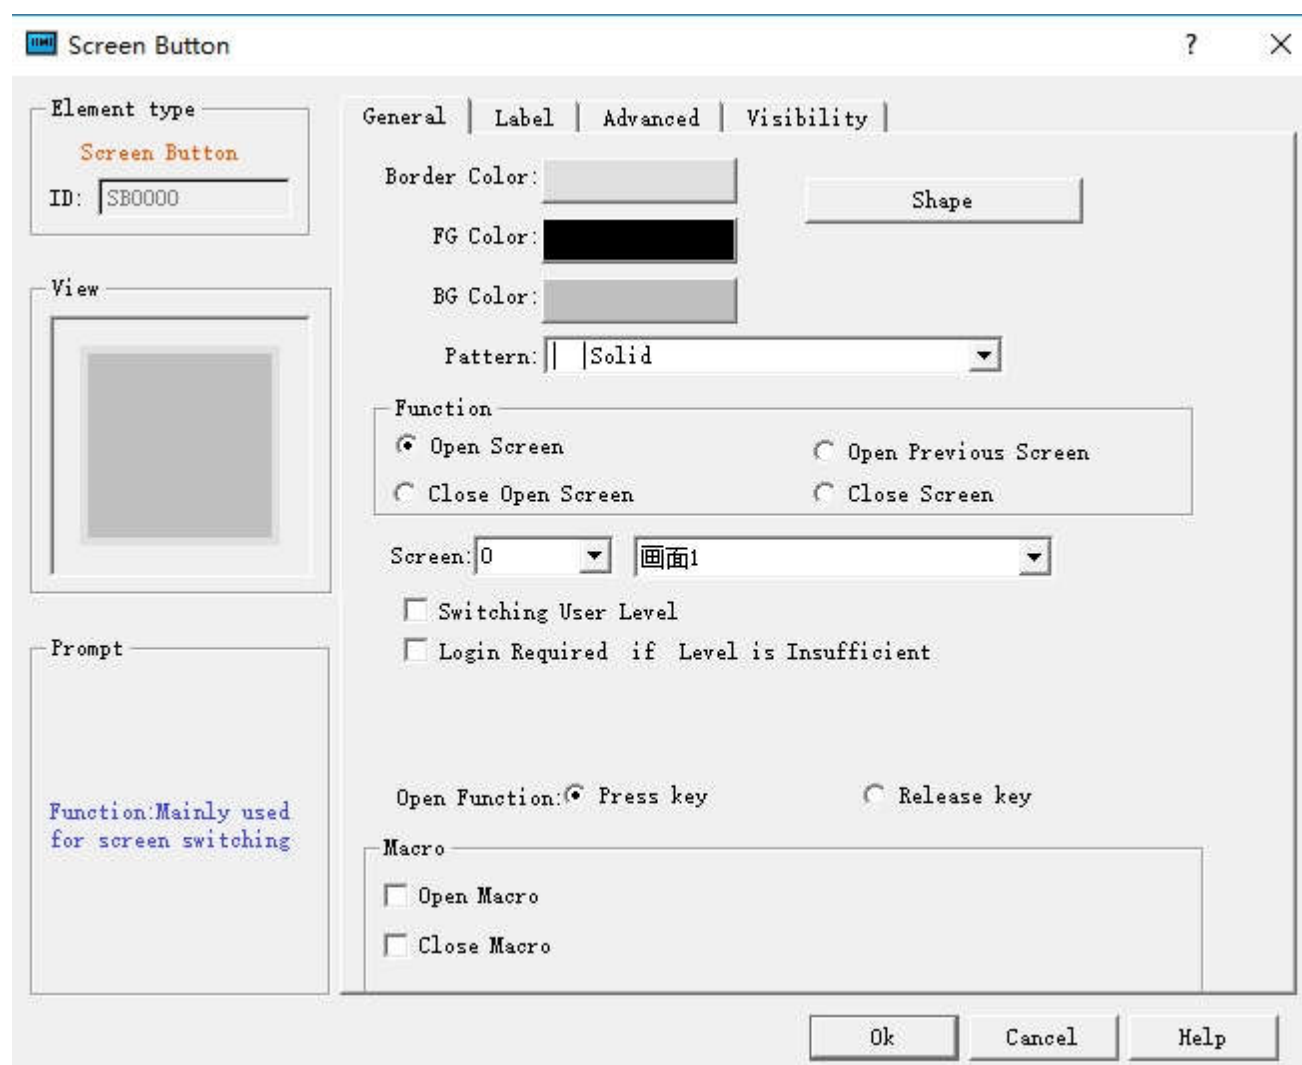

Figure 4-76 Screen Button Dialog Box
- Click the icon button  on the toolbar to bring up the dialog box , as shown in Figure 4-76.